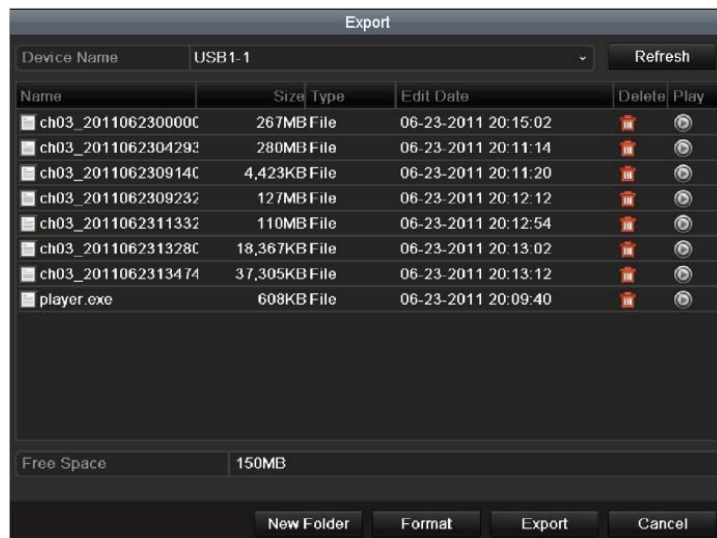

Figure 14-5 Export Log Files
Step 6 If you want to export the log files, click the **Export** button to enter the Export menu, as shown in Figure 14-5.